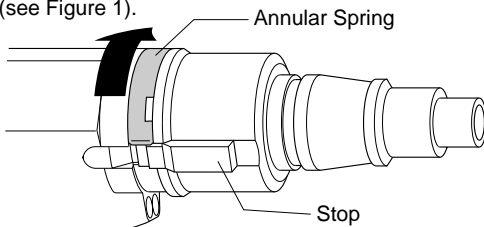

Figure 1 - Rotating Annular Spring
1. Using screwdriver, lift end of annular spring and rotate spring until stop is uncovered (see Figure 1).